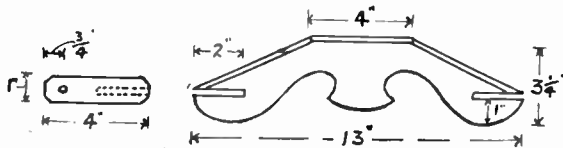

Fig. 2—Details of the centre bridge
The piece (E) in Fig. 3, which holds the centre candle and bridgework, is 4 ins. long, 1 in. wide and ½ in. thick. Cut off the corners and drill a ¼ in. hole ¾ in. from one end as shown in Fig. 2.
We now have the centre bridge portion to make, and this is clearly shown in Fig. 2. The main support is 13 ins. long, 3½ ins. wide and ¼ in. thick. Slots are cut in the ends to fit piece (E) on the end candlesticks, and these are ½ in. wide and 2 ins. long.